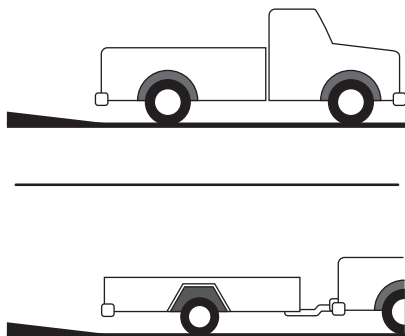

Figure 4-8
3. Face the truck bed or trailer towards a slight incline, which will reduce the steepness of the loading angle by bringing the bottom of the ramps up on the slight incline. See Figure 4-8.